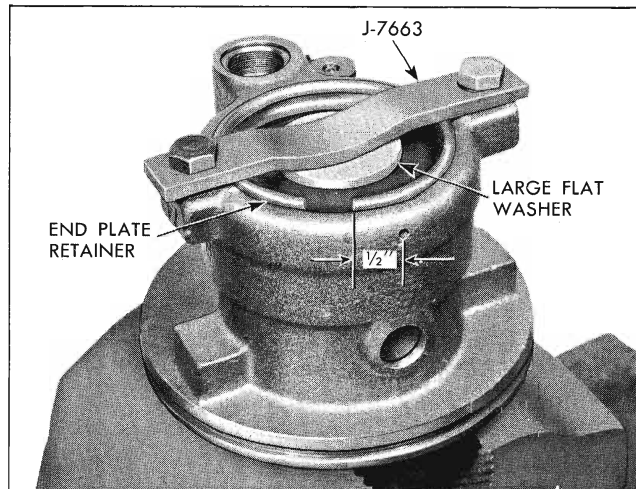

Fig. 9A-52 Installing End Plate Using J-7663
9. Lubricate outside diameter and edge with radius of pressure plate with vaseline (to insure against damaging "O" ring) and install on dowel pins with ported face toward the pump ring, see Fig. 9A-51. Apply pressure to outer edge only to seat pressure plate. **DO NOT** press or hammer on the center of the pressure plate as this will score the face of the plate towards the pump rotor causing permanent distortion with resulting pump failure. (Pressure plate will travel about $\frac{1}{16}$ " to seat.)